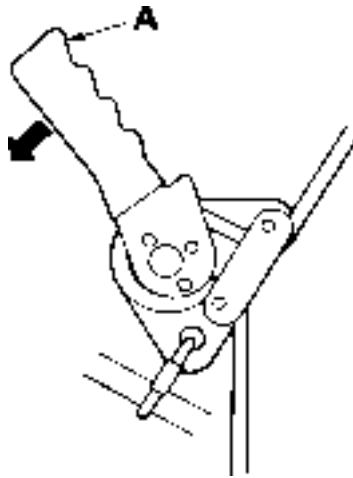

Fig 5
- 13- Ensure the rescue rope is fitted in the descender unit as shown in Fig 5.